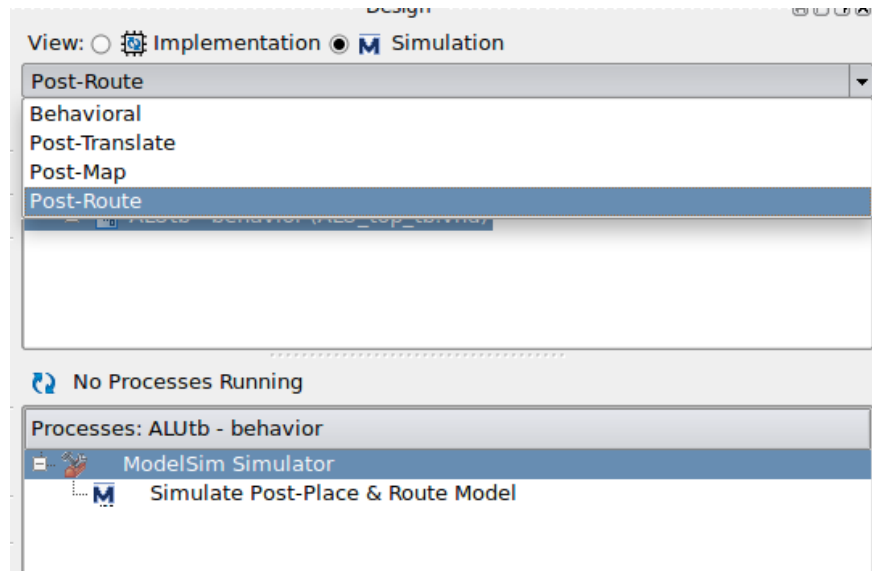

Figure 9: Performing a Post-Route Simulation
- (d) Double click on the “Simulate Post-Place & Route model” under the Model-sim option in the Processes window. See Figure 9.